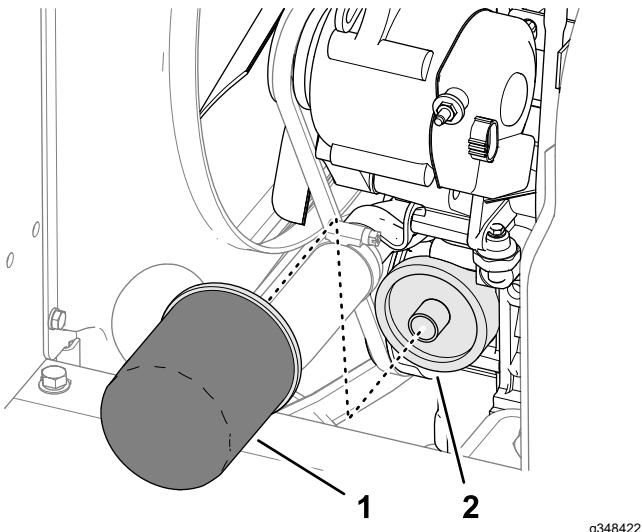

Figure 67
- 5. Remove the oil filter (Figure 67).